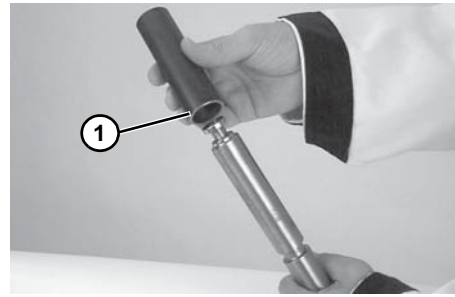

Figure 41
4. Slide sleeve (**Figure 41, item 1**) of tool over bearing.